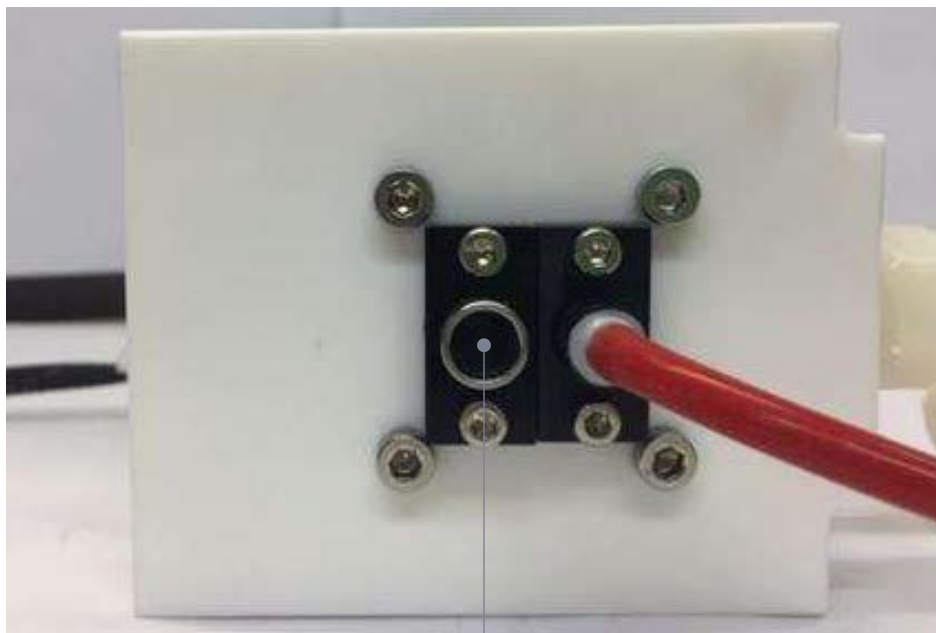

Figure 12
18. Install the end caps and screws onto both ends of the pump chamber assembly **(figure 12)**.